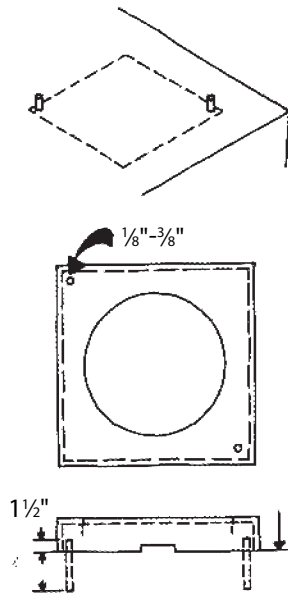

FIGURE 4-2
2. It is recommended that you install non-corroding steel dowels in the deck to prevent the column from moving laterally. These should be positioned to set just inside opposite (diagonal) corners of the plinth and should protrude from the deck 1-1/2" (Fig. 4-2).